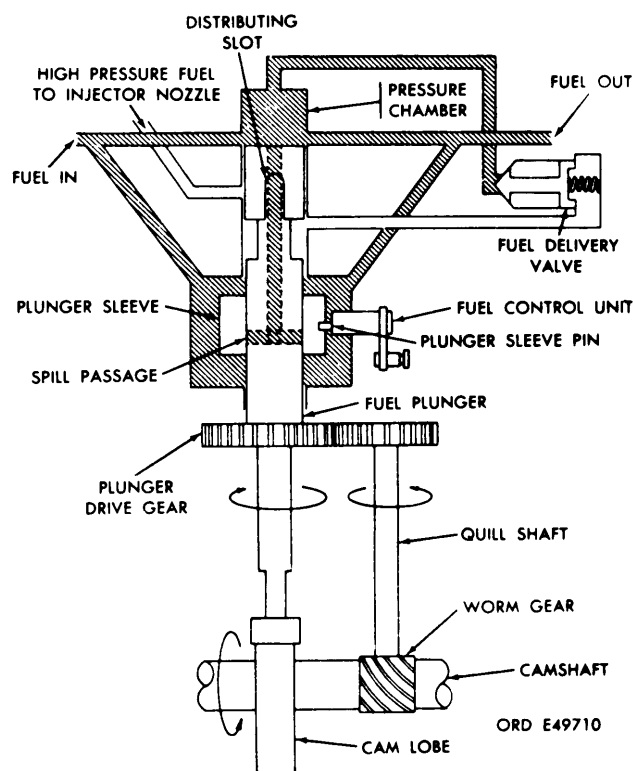
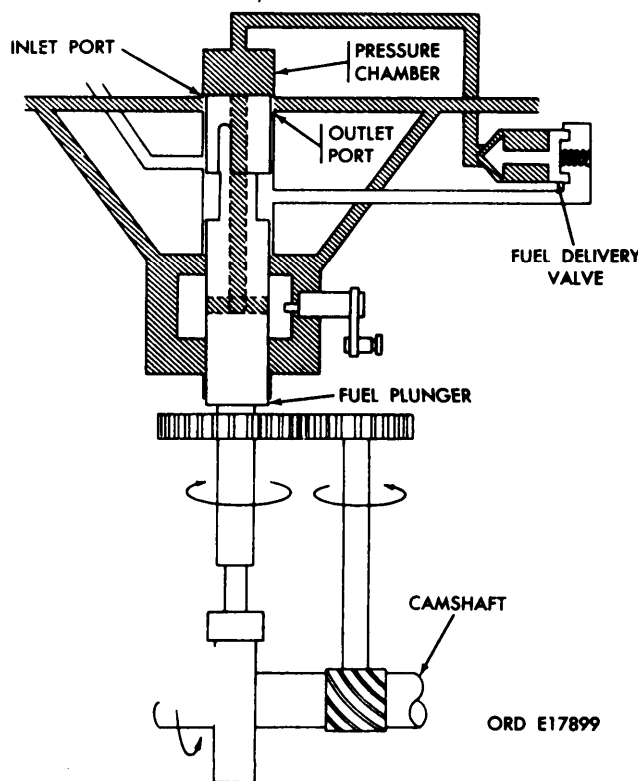
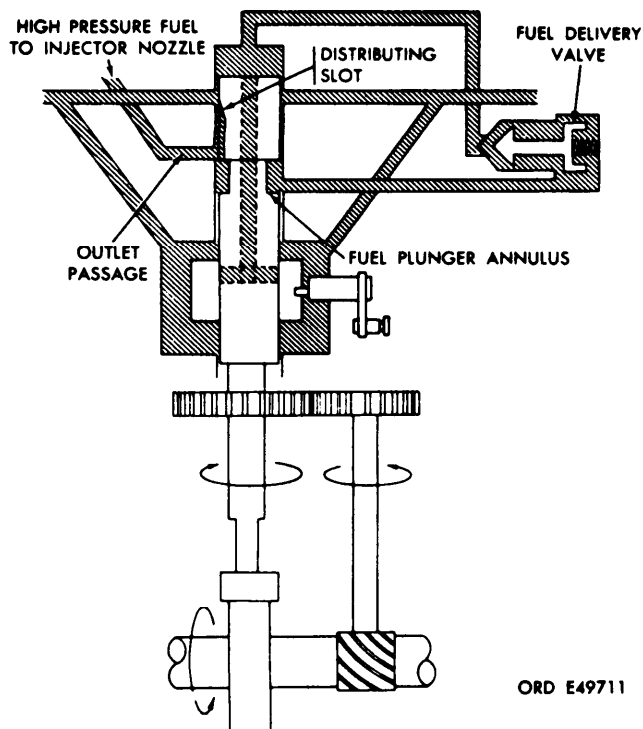
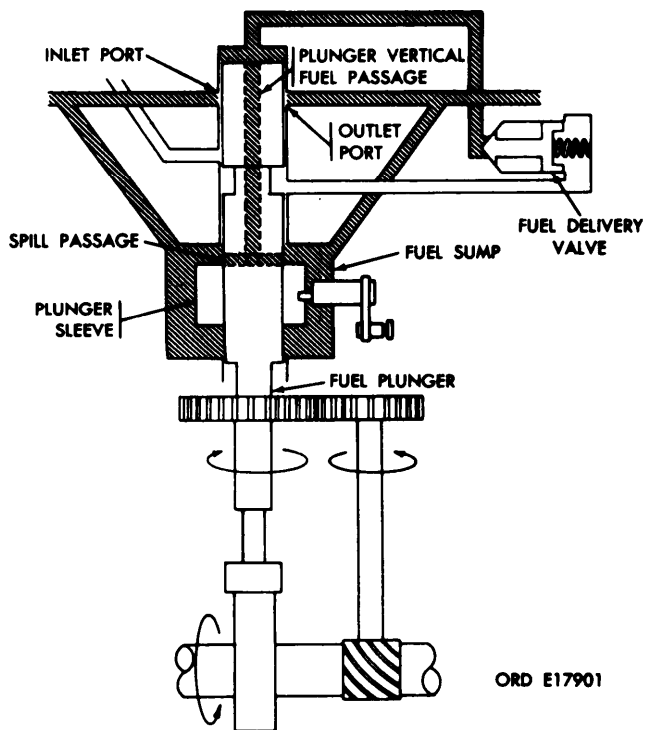

Figure 1-24. Fuel intake flow diagram.
Figure 1-25. Beginning of fuel delivery flow diagram.
Figure 1-26. Fuel delivery flow diagram.
Figure 1-27. End of fuel delivery flow diagram.
b. At the intake phase (fig. 1-24), the fuel plunger is on the base circle of the camshaft, the fuel plunger is down, and fuel enters and fills the pressure chamber. As the camshaft rotates, the fuel plunger closes off the inlet and outlet ports and is at the beginning of delivery phase (fig. 1-25). The fuel in the pressure chamber is pressurized and starts to open the fuel delivery valve. At the delivery phase (fig. 1-26) the fuel is under sufficient pressure to fully open the fuel delivery valve. This highly pressurized fuel then flows around the fuel plunger annulus, through the distributing slot, which is now aligned with one of the six outlet passages, and out the outlet passage to the injector nozzle. At the end of delivery phase (fig. 1-27), after sufficient upward movement of the fuel plunger, the spill passages pass over the edge of the plunger sleeve. The fuel pressure then escapes down the plunger vertical fuel passage into the fuel sump which is at supply pressure. The reduction of pressure causes the fuel delivery valve to close.
1-24. Fuel Metering and Control. *a.* The quantity of fuel delivered per stroke is governed by variation in the position of the plunger sleeve (fig. 1-27) with relation to the fixed port closing position (the point at which the top of the fuel plunger covers the fuel